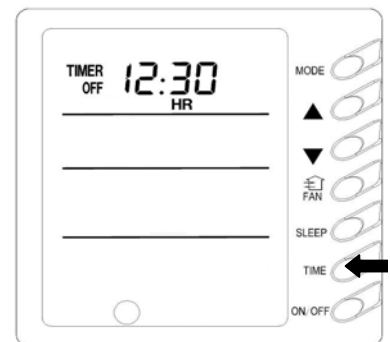

Fig. 7-7
7.2.6 Timer setting (Fig. 7-7)